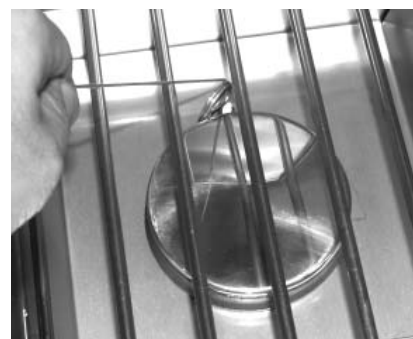

Fig. 17-2 - Manual lighting
2. Insert either a burning long-barrel butane lighter, a burning long-stem match, or a burning match held by a wire extension holder through the cooking grid opening to the burner (Fig. 17-2). Hold the flame against the edge of the burner.
4. If the burner does not light within five (5) seconds of turning the control knob, **immediately depress the knob and turn the valve to OFF**. **WAIT FIVE (5) MINUTES** before repeating steps 2 through 4 of the **MANUAL LIGHTING** instructions.